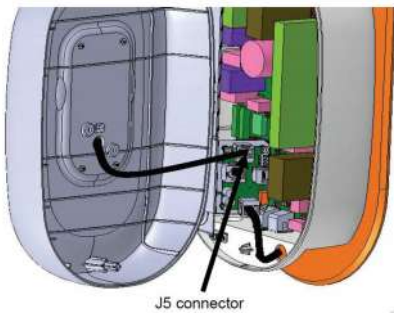

Figure 41
- Take the base unit cover and connect the console cable(RJ25) to the J5 connector on the communication board as shown in Figure 41 .